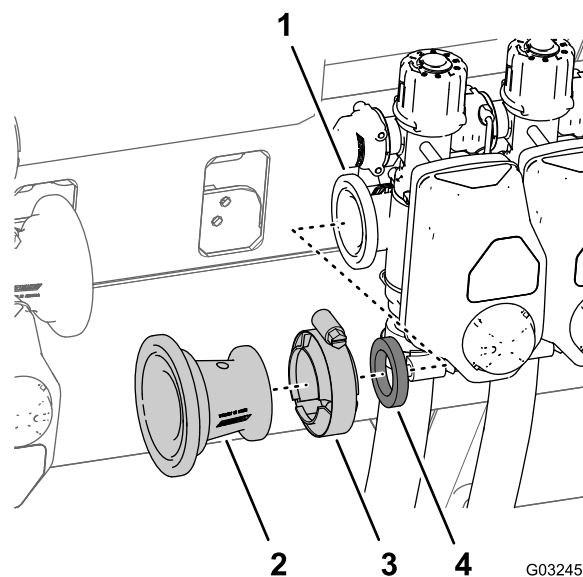

Figure 46
- Remove the flange clamp 76 mm (3 inches) that secures the reducer adapter and gasket (2-1/4 inches) to the flange of the left boom-section valve, and remove the adapter, clamp and gasket from the machine (Figure 46).